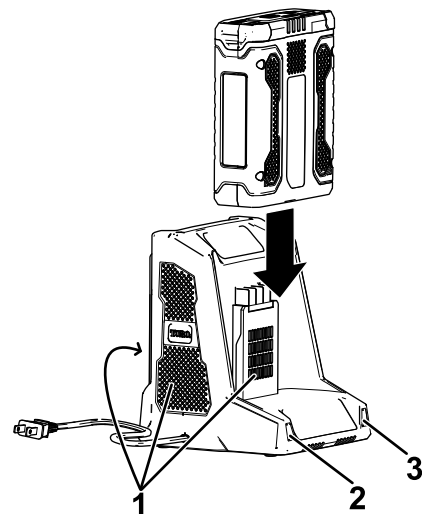

Figure 10
4. Slide the battery pack into the charger until it is fully seated (Figure 10).